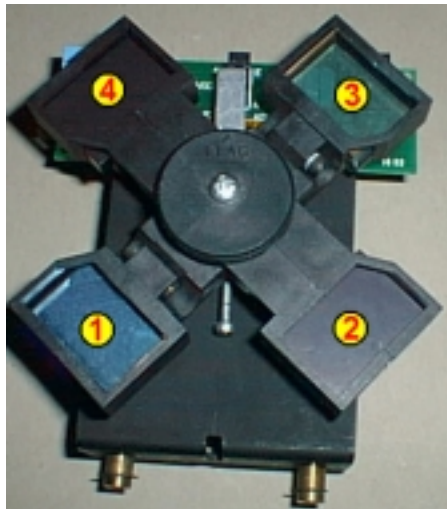

Figure 98 Positions for the emission wheel
- The positions for the emission wheel are shown in Figure 98.